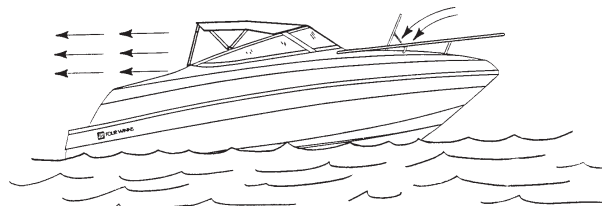

Figure B10: Desired air flow through the boat
4. Opening and closing ports, hatches, doors, and windows may raise or lower CO levels on board a boat. When airflow is moving forward inside the boat, CO may be entering the boat. See Figures B10 and B11.